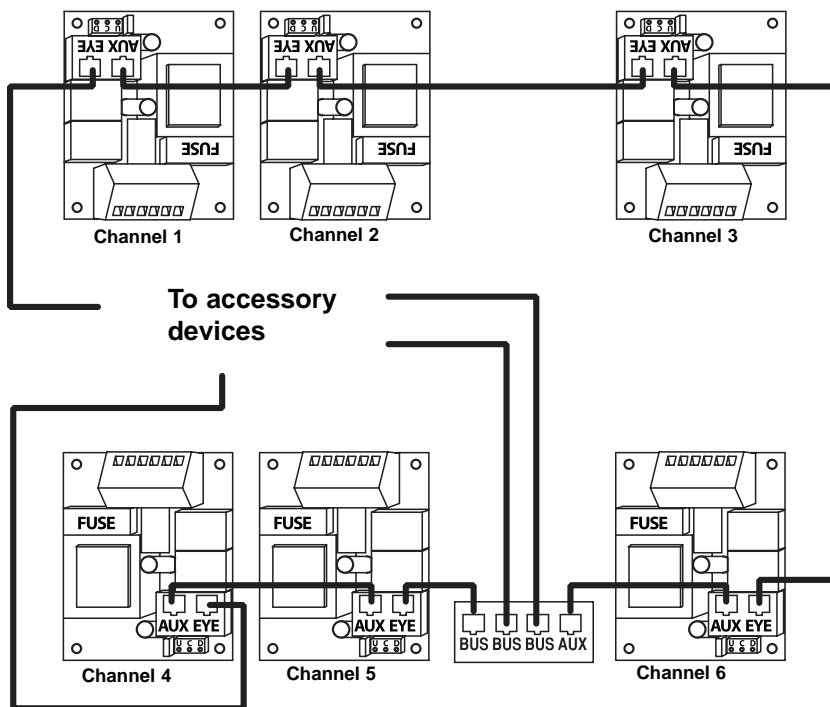

Figure 12. Bus wiring
- ◆ You can plug an Eye to an Aux, or an Aux to an Aux, but never an Eye to an Eye. In Figure 12, between control boards 5 and 6, the bus cable goes from Aux to Aux so that the last component has an open Eye port for connection to accessory devices.